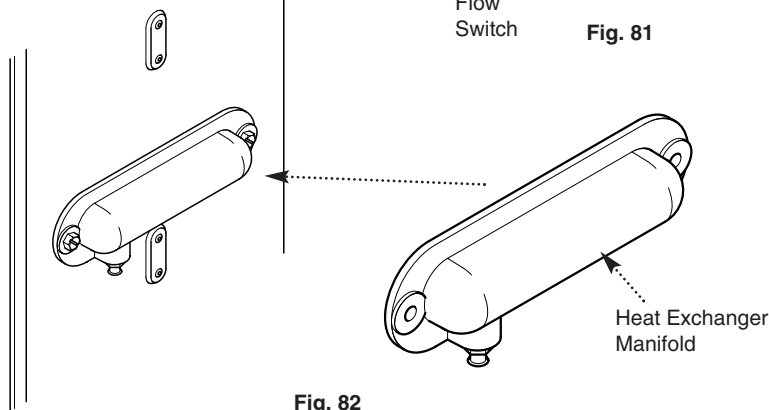

Fig. 82
4. Undo the screws securing the heat exchanger manifold and remove the manifold (Fig. 82).